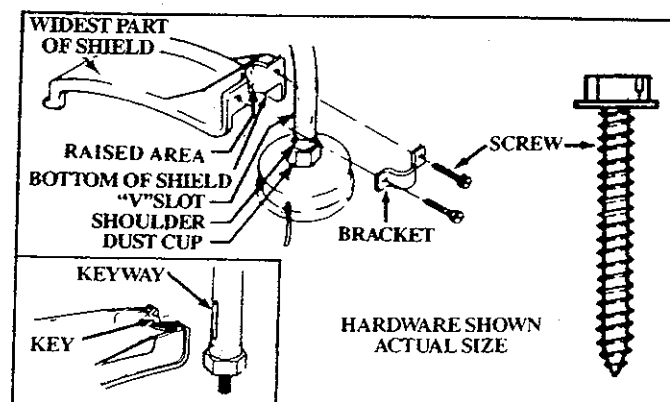

Figure 4
3. SHIELD — Figure 4
Failure to install the shield in the position shown in Figure 4 and 5 can result in serious injury to the operator. The length of the shield must be aligned with the length of the drive shaft housing. Direct the widest part of the shield toward the engine.
- Match the Key (Raised area) on the Shield with the Keyway ("V" slot) on the Drive Shaft Housing. Figure 4.
- Install the Screws as shown in Figure 4.